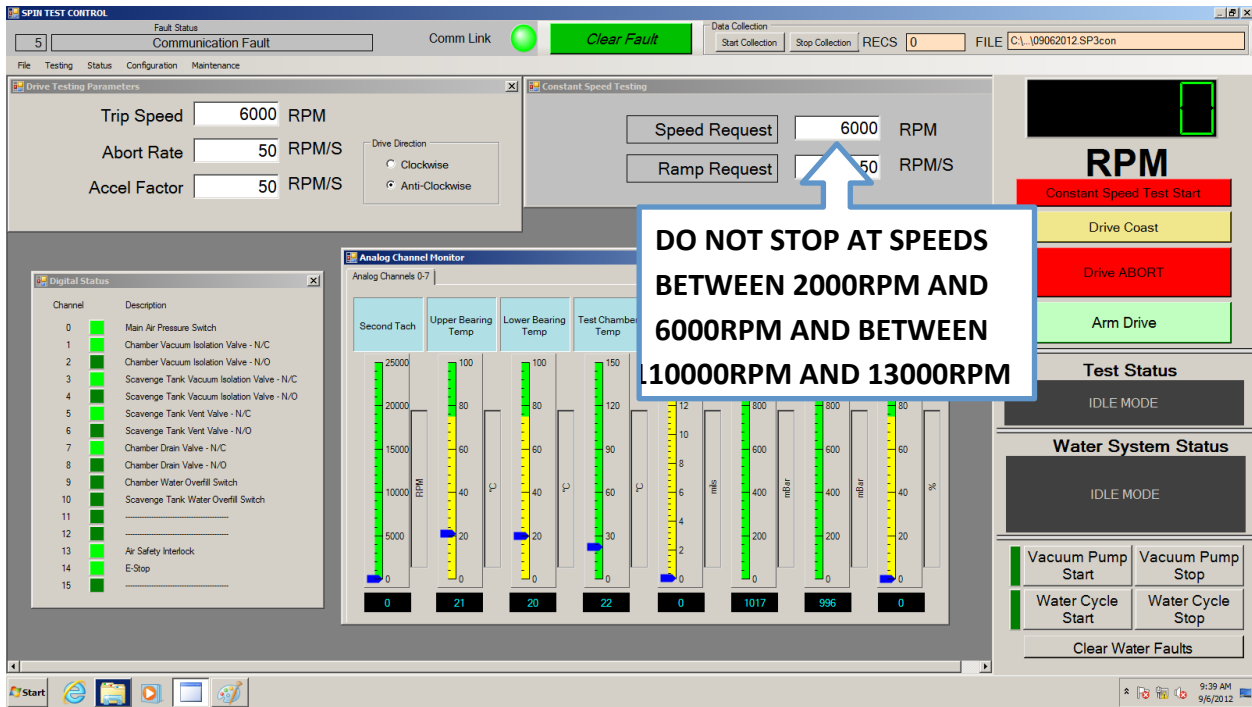

Figure 11: Wokrstations
3. Setup Direction of rotation and Speed Limits. Figure 11 displays a standard test screen.